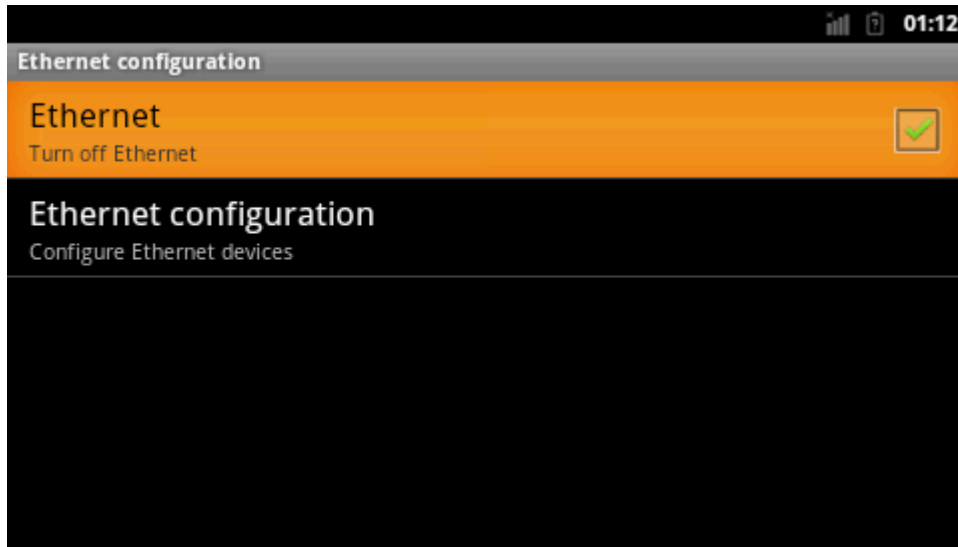

Figure 5-23
(2) Open Ethernet. Refer to figure 5-23: